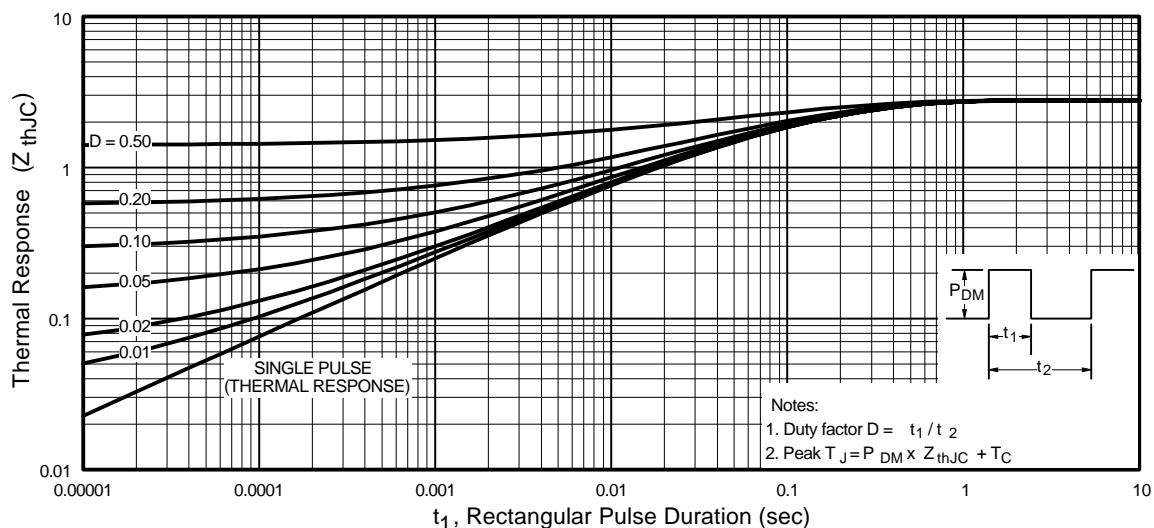

Fig 11. Maximum Effective Transient Thermal Impedance, Junction-to-Case
- ① Repetitive rating; pulse width limited by max. junction temperature. (See fig. 11)
- ② Starting $T_J = 25^\circ\text{C}, L = 1.9\text{mH}$